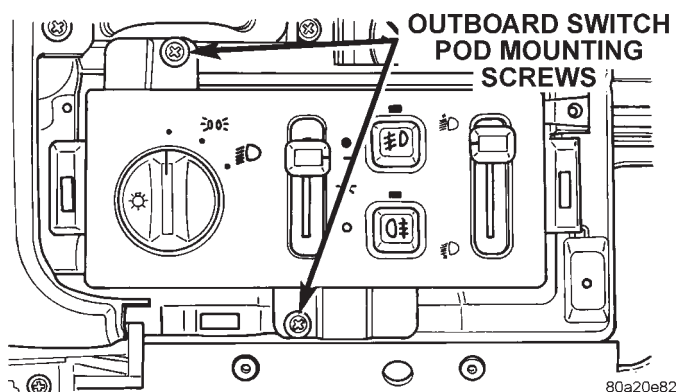

Fig. 9 Outboard Switch Pod Remove/Install
- (1) Remove the cluster bezel as described in this group.
- (2) Remove the two screws that secure the outboard switch pod to the instrument panel (Fig. 9).